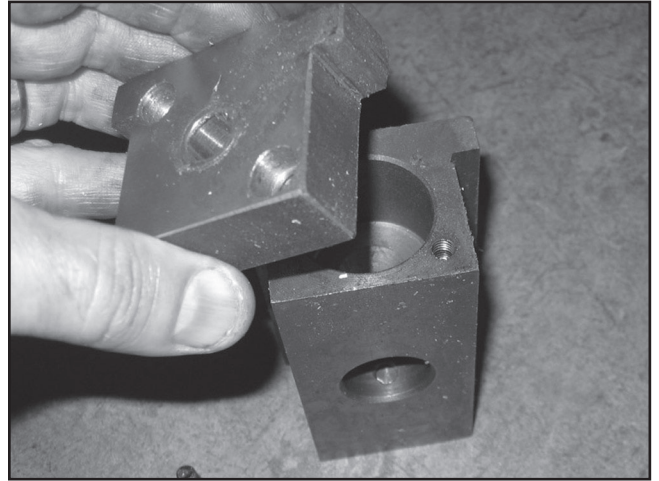

Figure 9. Slide block end-cap removal.
- Using a 5mm hex wrench, remove the two cap screws and the slide block end cap (**Figure 9**).